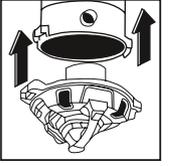

Fig. 9
8. Set the power head back into the container. Align the upper section with the locks. Press with the locks. Press the locks into the right position. Double check the power head is in a position that will allow the blowing port sit in the rear side. (Fig. 9)